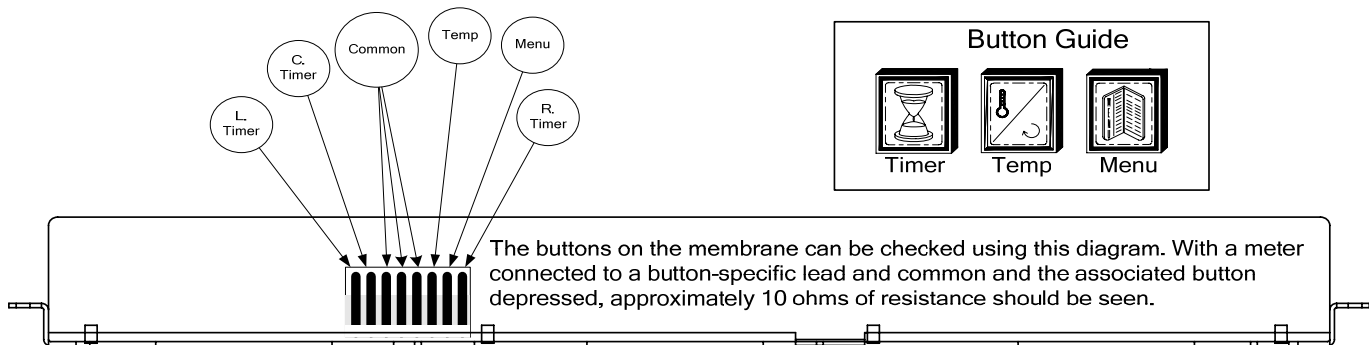

Figure 3: Membrane assembly viewed from above with the display facing forward.
8. To confirm membrane failure, check for continuity in the switches of the removed bezel assembly. **See Figure 3.**